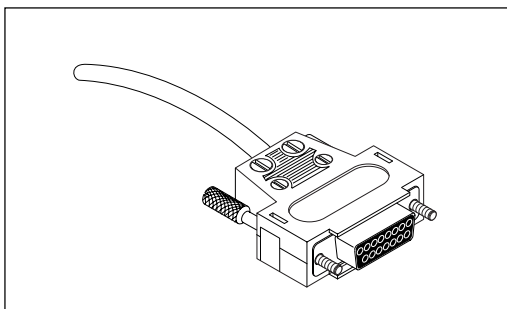

Fig. 9: Plug for connecting the external digital display
- Connect the changer to the machine and other plug connections if necessary (e.g. for external digital display (fig. 9) or bill validator).